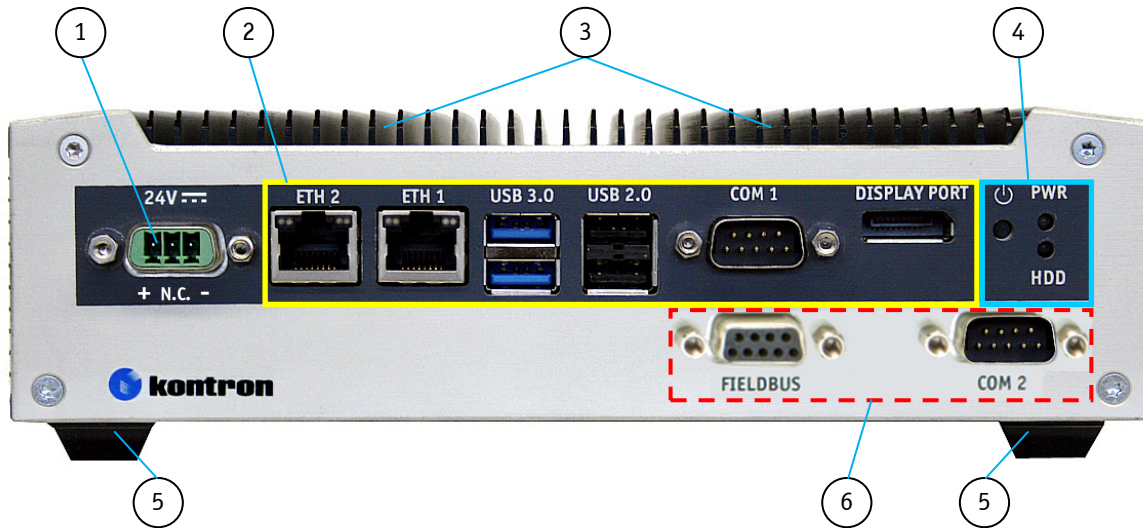
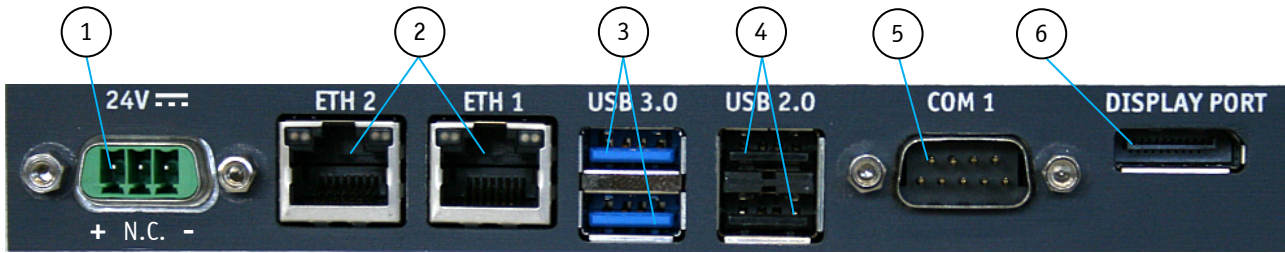
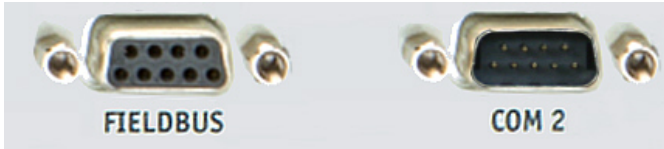

Fig. 9: KBox A-101 - front view
Fig. 11: External interfaces of the integrated SBC
Fig. 12: Optional external interfaces routed from the onboard ports (on the front side)
The device may be operated in all positions except with the top side facing down. When switching on the KBox A-101, make sure that the air openings on the front side (Fig. 9, pos. 3) and the rear side (Fig. 14, pos. 2) and the cooling fins of the chassis are not obstructed (covered) by any objects. To provide sufficient heat dissipation for the cooling of the device, do not cover the cooling fins of the KBox A-101. Do not place any objects on the device. When installing the platform, please note the clearance recommendation in the section 11.2 “Mechanical Specifications”.
The 3-pin connector (Fig. 9, pos. 1) provides the power connection of the KBox A-101 to the appropriate main power supply:
These ports (Fig. 11, pos. 2) consist of RJ45 connectors with integrated LEDs and support a transfer rate of 10/100/1000Mbps.
The system is equipped with two USB 2.0 and two USB 3.0 interfaces (Fig. 9, pos. 2 and Fig. 11, pos. 3 and 4). Various USB devices can be connected to these USB interface connectors.
The serial port COM 1 (Fig. 11, pos. 5) consists of a 9-pin, RS-232 configured D-SUB connector that allows the connection of a serial peripheral.
An external (digital) display can be connected to the DisplayPort connector (Fig. 11, pos. 6).
The optional serial RS422/485 interface (Fig. 9, pos. 6; Fig. 12) consists of a 9-pin D-SUB connector. The interface can be configured via an on-board DIP switch (SW1) for RS422 or RS485 serial communication.